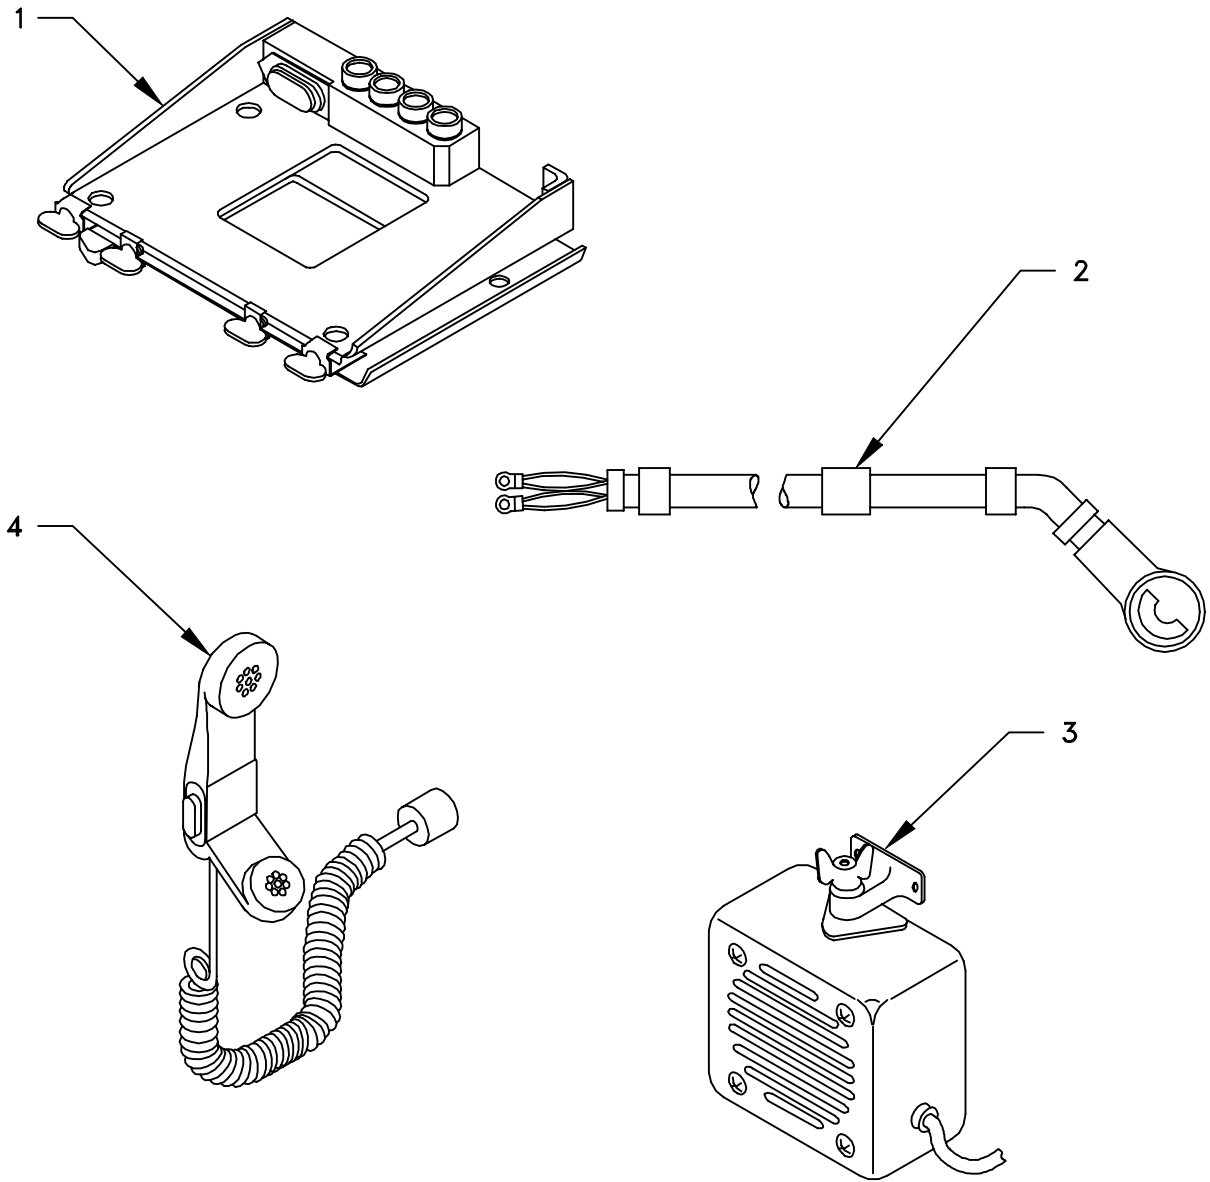
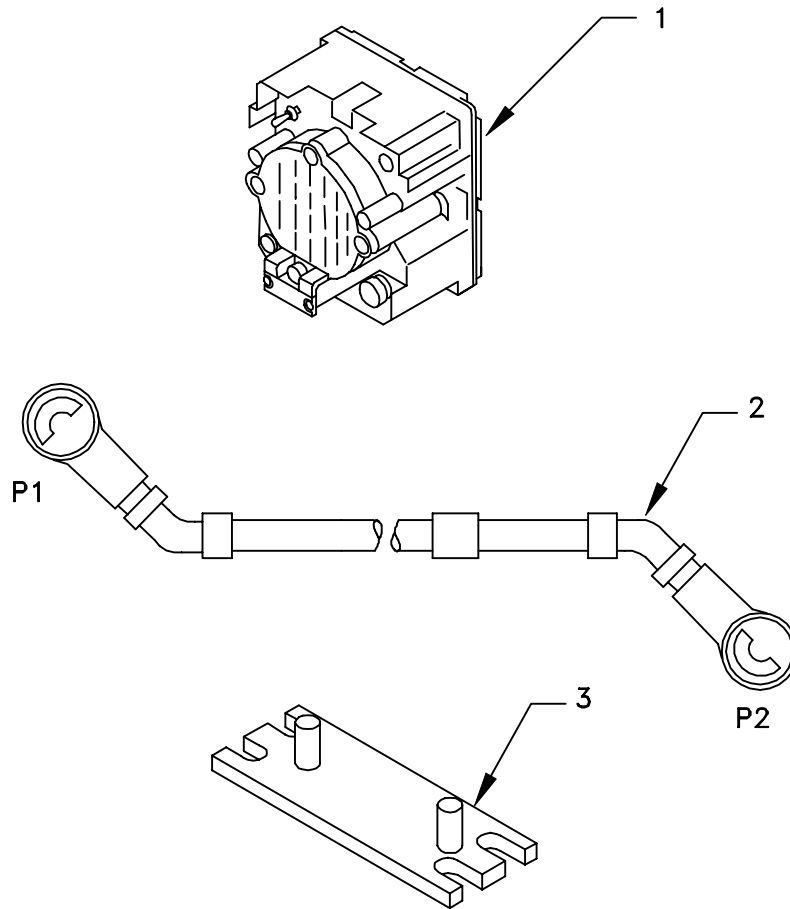

Figure 4-1. MK Illustrated Parts List
Figure 4-2. Illustrated Parts List for Table 4-2
4.3.1 Items Supplied in MK and/or Required for Installation. Use Table 4-1 and Figure 4-1 to identify and inventory MK parts supplied to install Radio Set AN/VRC-87/88/90 Series. Use Table 4-2 and Figure 4-2 to identify and inventory additional items required for installation of "D" and "F" Series Radio Sets.